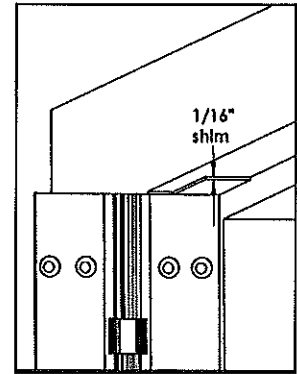

Fig. 1
1. With the hinge open, place the hinge frame leaf against the frame making certain that the hinge face is in line and flush with the frame face along its entire length. Position the top of the hinge 1/16" (1/8" maximum) below the header. **Note: A 1/16" shim is recommended due to initial settling of the bearings** (See Fig. 1).